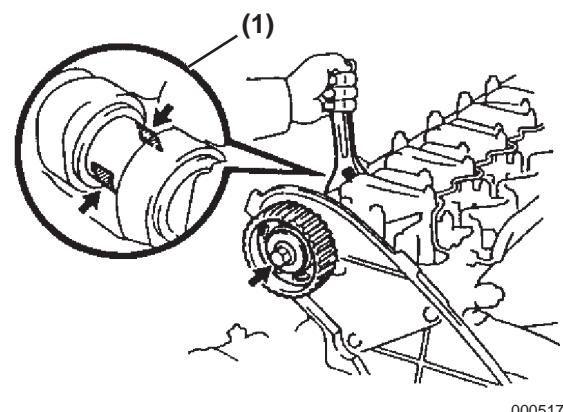

Figure 5-176
4. Hold the camshaft with a hex wrench on the flats (**Figure 5-176, (1)**) of the camshaft. Torque the pulley bolt to 1000 kgf·cm, 98.00 N·m (72.3 lb·ft) (**Figure 5-176**).